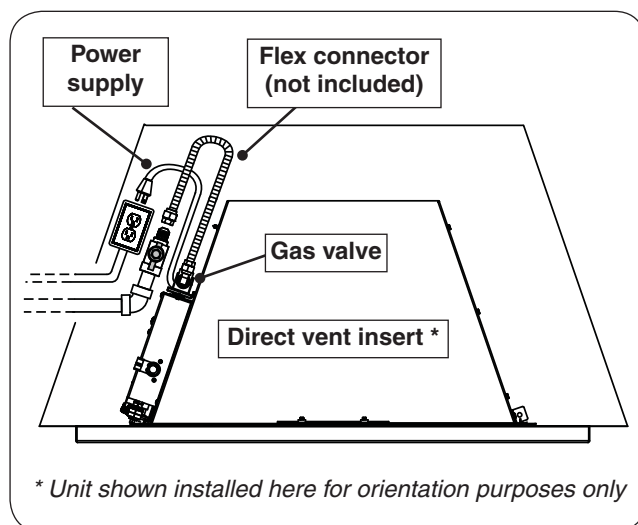

Fig. 23-3 Overall orientation (Reference Only)
3. A $\frac{3}{8}$ " C.S.A. stainless steel flex connector (not included) will be required. Connect one end of the flex to the gas valve on the insert (only). **The flex will be connected to the gas supply at a later time, when the insert is ready to be installed.** For overall orientation purposes, reference the installation example shown in Fig. 23-3.
The unit's 18" power supply cord is located on its left side. **The cord will be connected to the receptacle at a later time, when the direct vent insert is ready to be installed.** For overall orientation purposes, reference the installation example shown in Fig. 23-3.